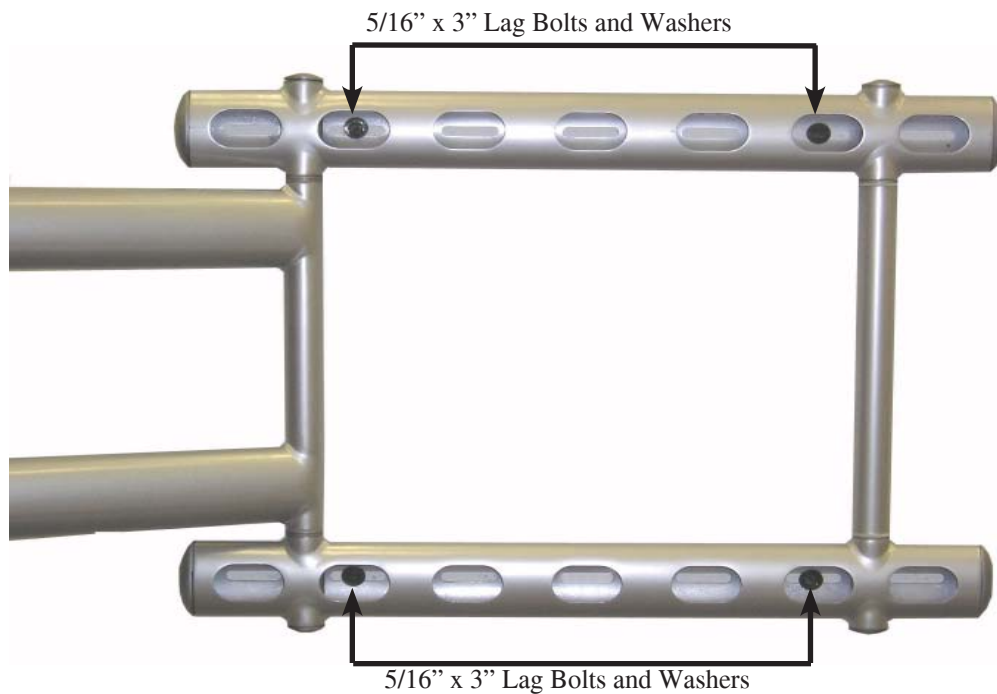

Figure 6
- Step 2.** Insert four (4) 5/16" x 3" lag bolts (or six (6), depending on your mount location) and washers into the mounting holes and tighten (Figure 6).